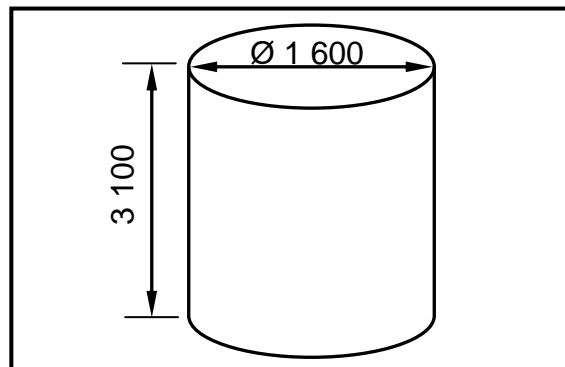

FIGURE 3.7
- 3.7 FIGURE 3.7 below is a drawing of a cylindrical water tank. Study the drawing and calculate the volume of the tank in m^3 in your ANSWER BOOK. Show ALL formulae and calculations. Round off your answer to TWO decimal places.